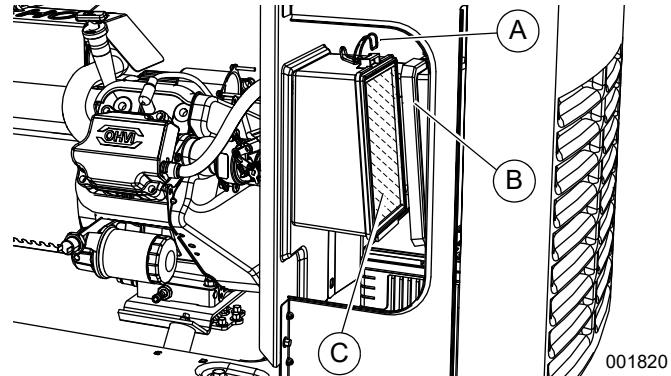
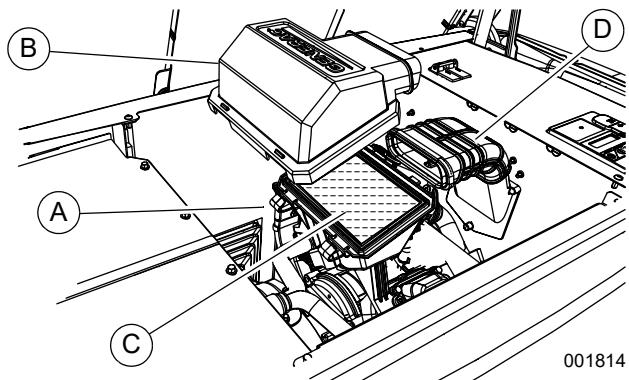

Figure 4-4. Servicing Air Cleaner (10 kW)
Figure 4-5. Servicing Air Cleaner (13–22 kW)
2. See **Figure 4-4** or **Figure 4-5**. Remove cover clips (A) and air cleaner cover (B).